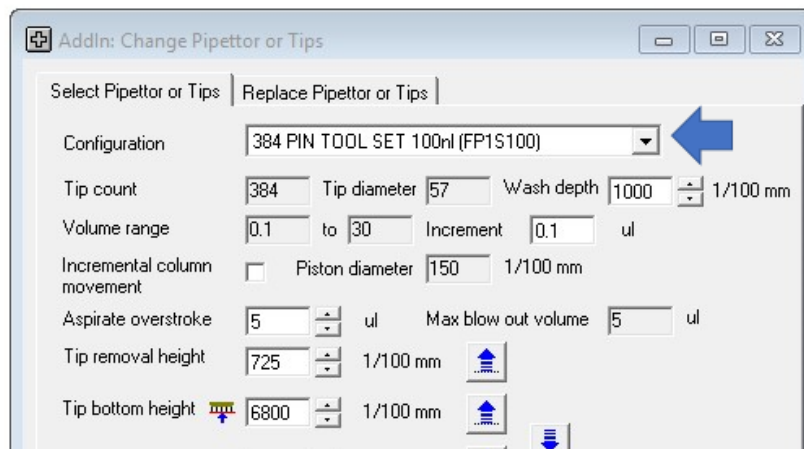

Figure 13. Screenshot for selecting pinning tool. Arrow: drop down menu with pipetting head configurations.
18. To access the data once the scan is finished, use **Launch View** on the **Scan** tab to open Studio View. Alternatively, open **View** from the **HCS Studio** navigator, click on **Change Filters (Figure 13 A)** and search the database (e.g. Plate ID or date of scan, **Figure 13 B**).